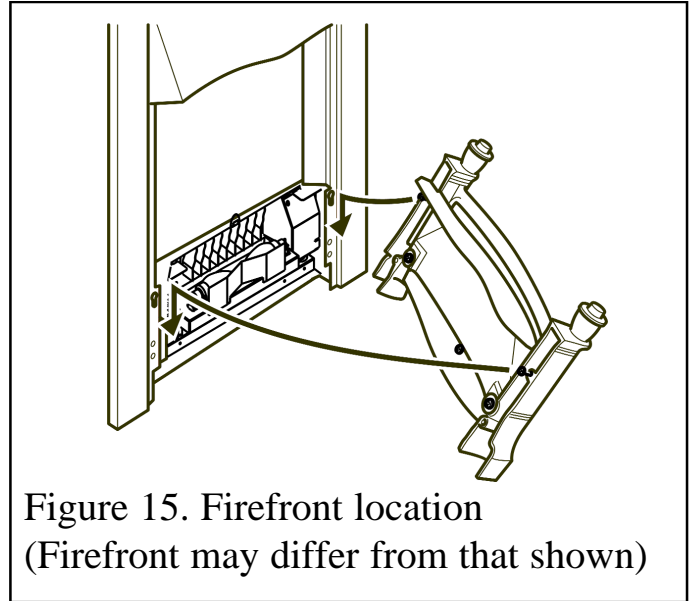
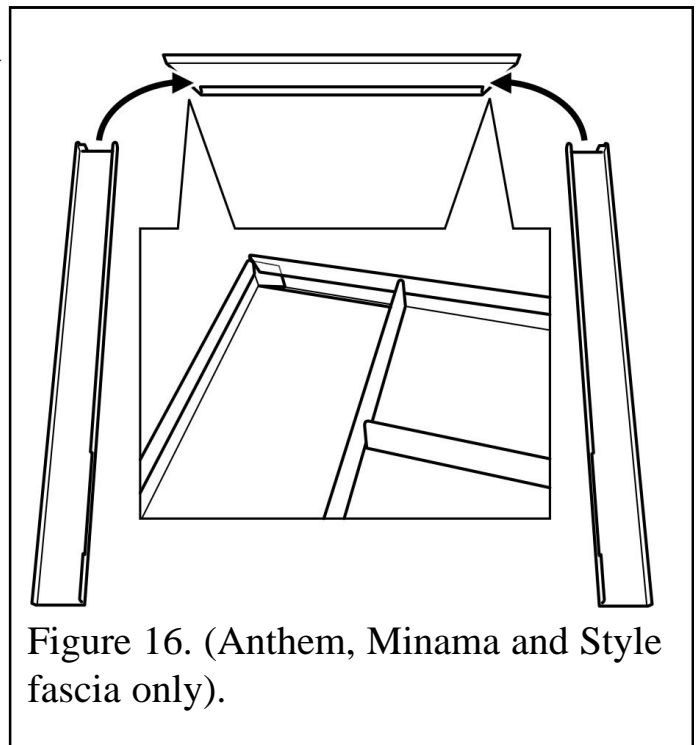

Figure 15. Firefront location
Figure 16. (Anthem, Minima and Style fascia only).
The rear of the firefront has two screws that locate into 'keyhole' brackets on the heater (See figure 15). (On Victorian models screw the brass firefront columns supplied with the firefront into the top of the firefront).
3. Hook the firefront on to the fascia as in figure 15.
1. Lay the three fascia parts face down on a flat surface as in figure 15. Each side trim has a small tab at the top. Position the tab to the outside upper edge (See figure 16).
2. Locate the left-hand-side-trim tab into the slot / fold along the upper edge of the top trim (See figure 16).
3. Locate the right-hand-side-trim tab into the slot / fold along the upper edge of the top trim (See figure 16).